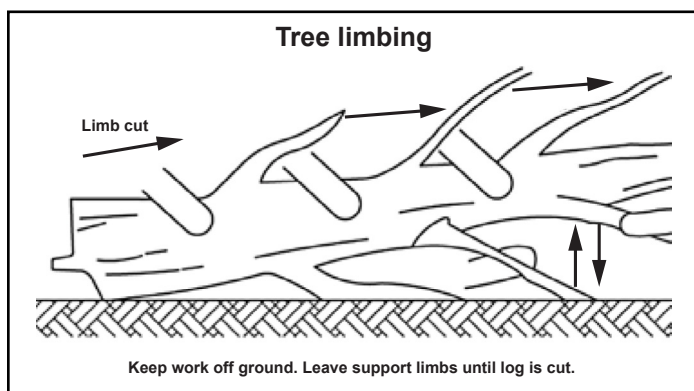

Figure 3 - Tree limbing
Limbing is removing the branches from a fallen tree. When limbing leave larger lower limbs to support the log off the ground. Remove the small limbs in one cut (Figure 3). Branches under tension should be cut from the bottom up to avoid binding the chain saw.
2. Fill the oil tank with **XX** oz. of saw chain oil (Figure 3).